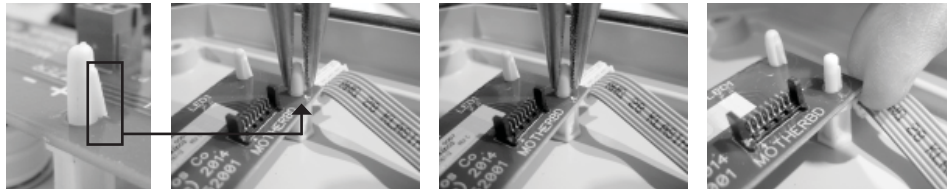

Figure 6 - Releasing the first support
- b. Using a pair of needle nosed pliers or equivalent, depress the latching mechanism of the first board support and gently lift the board just enough to prevent the latching mechanism from re-latching as shown in Figure 6.